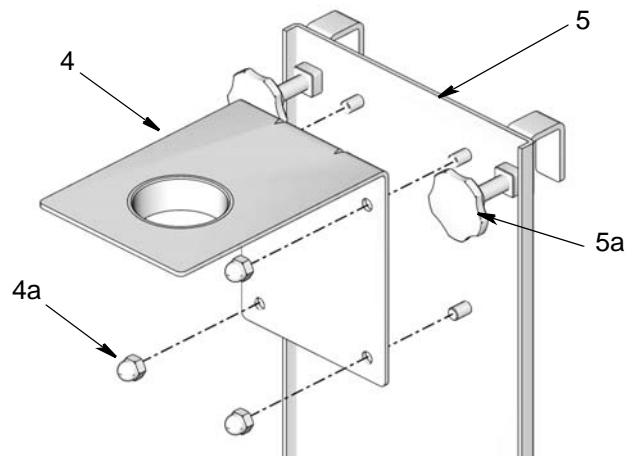

FIG. 11
1. Assemble the two pump bracket pieces 4 and 5, as shown in FIG. 11 using the 4 nuts (4a) (provided).